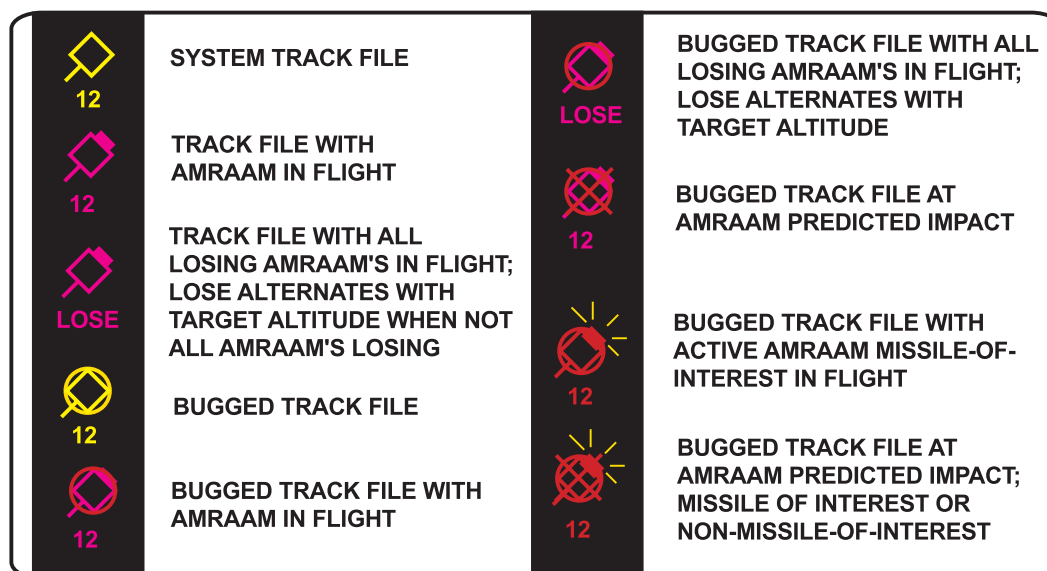

Figure 3-36 MFD Air-To-Air Target Symboly
An (X) is placed over the target symbol when any AMRAAM launched against the target times out to indicate missile impact. The "X" remains for 13 seconds (8 steady, 5 flashing). If another missile launched against the same target times out before the 13 seconds, the 13 seconds reinitializes for the second missile (Figure 3-36).